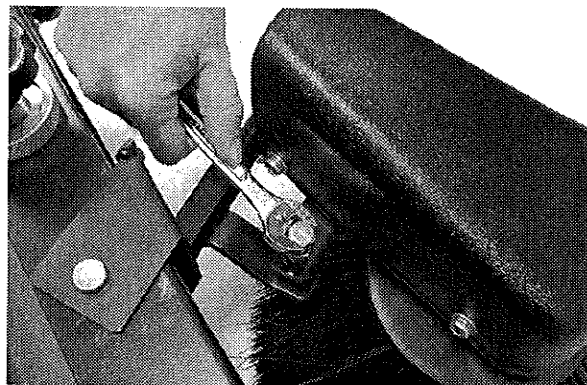

FIG. 25
2. To adjust side brush height, turn off main power switch, loosen nut on adjustment screw and turn screw clockwise to raise. Tighten down nut when properly adjusted (Figure 25).